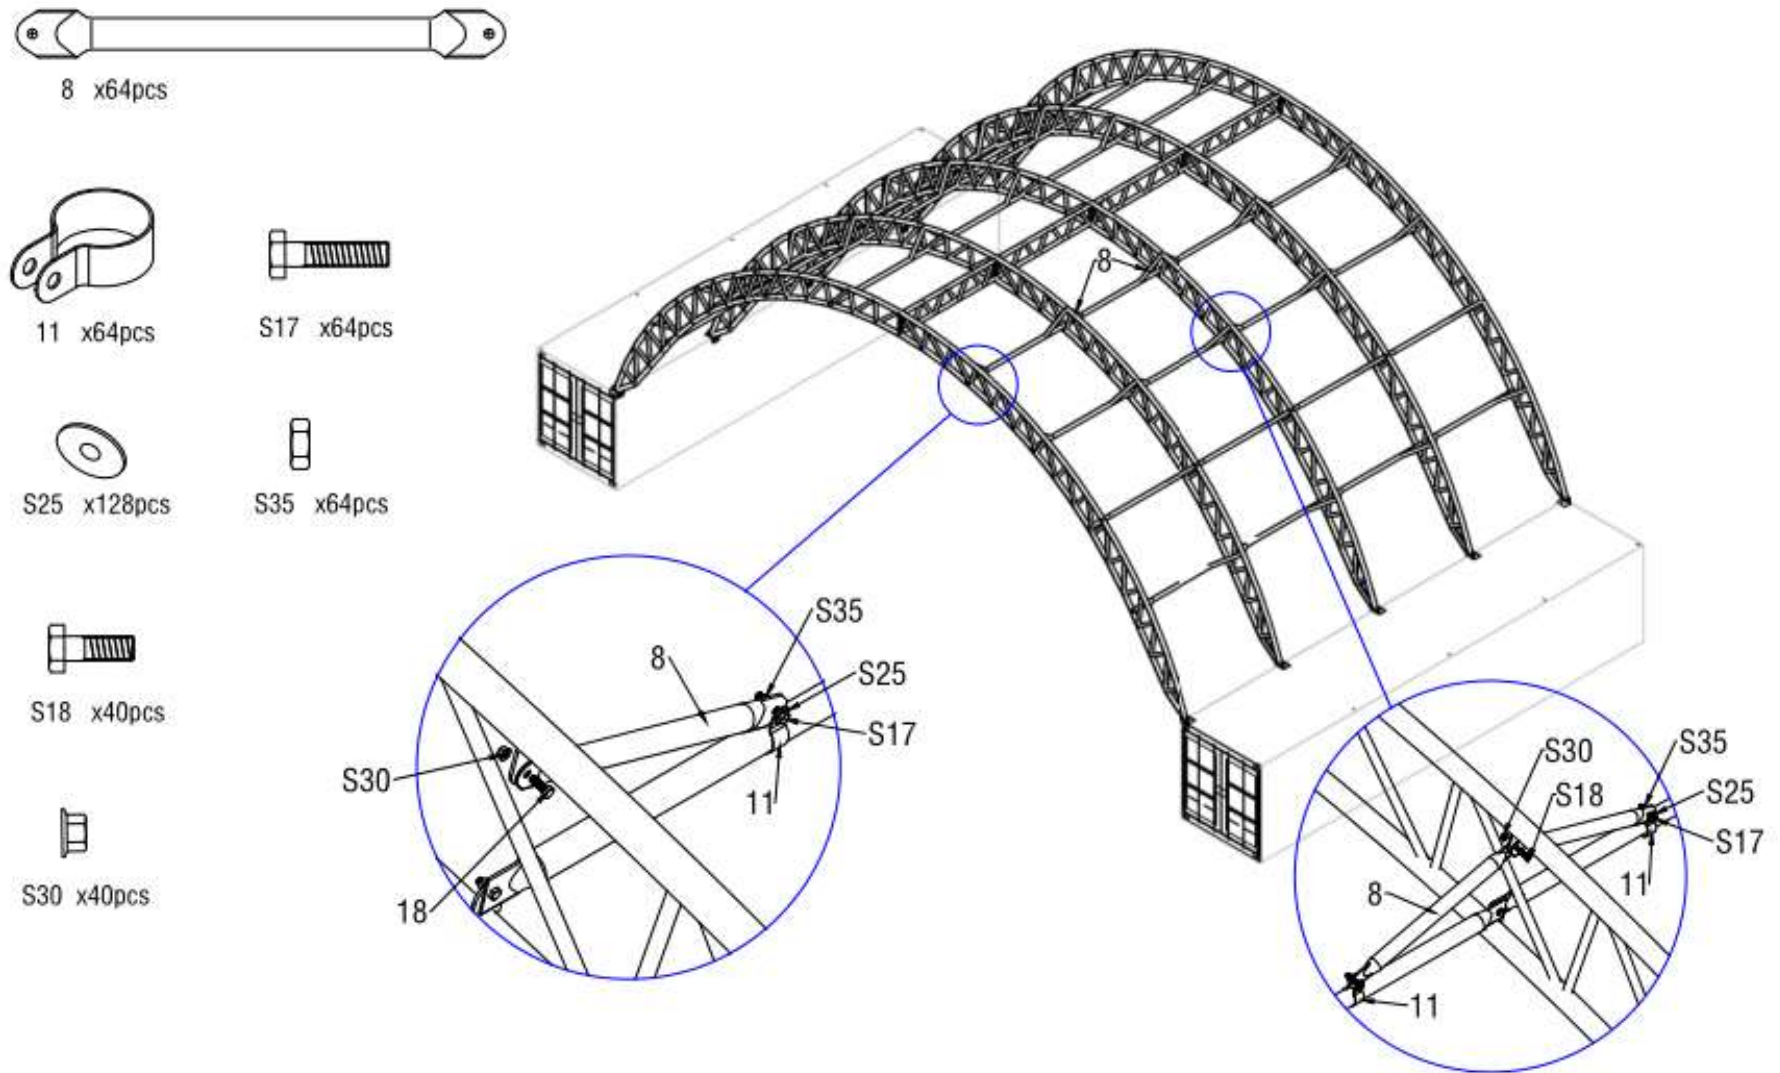

Figure 7
2.5.Connect Diagonal Support Tube For purlin(Part 8) by using Part no. 11. After that, install the third arch, connect the third arch with the base plate as mentioned earlier, connect all remaining purlins by turns as Figure 7 shows.